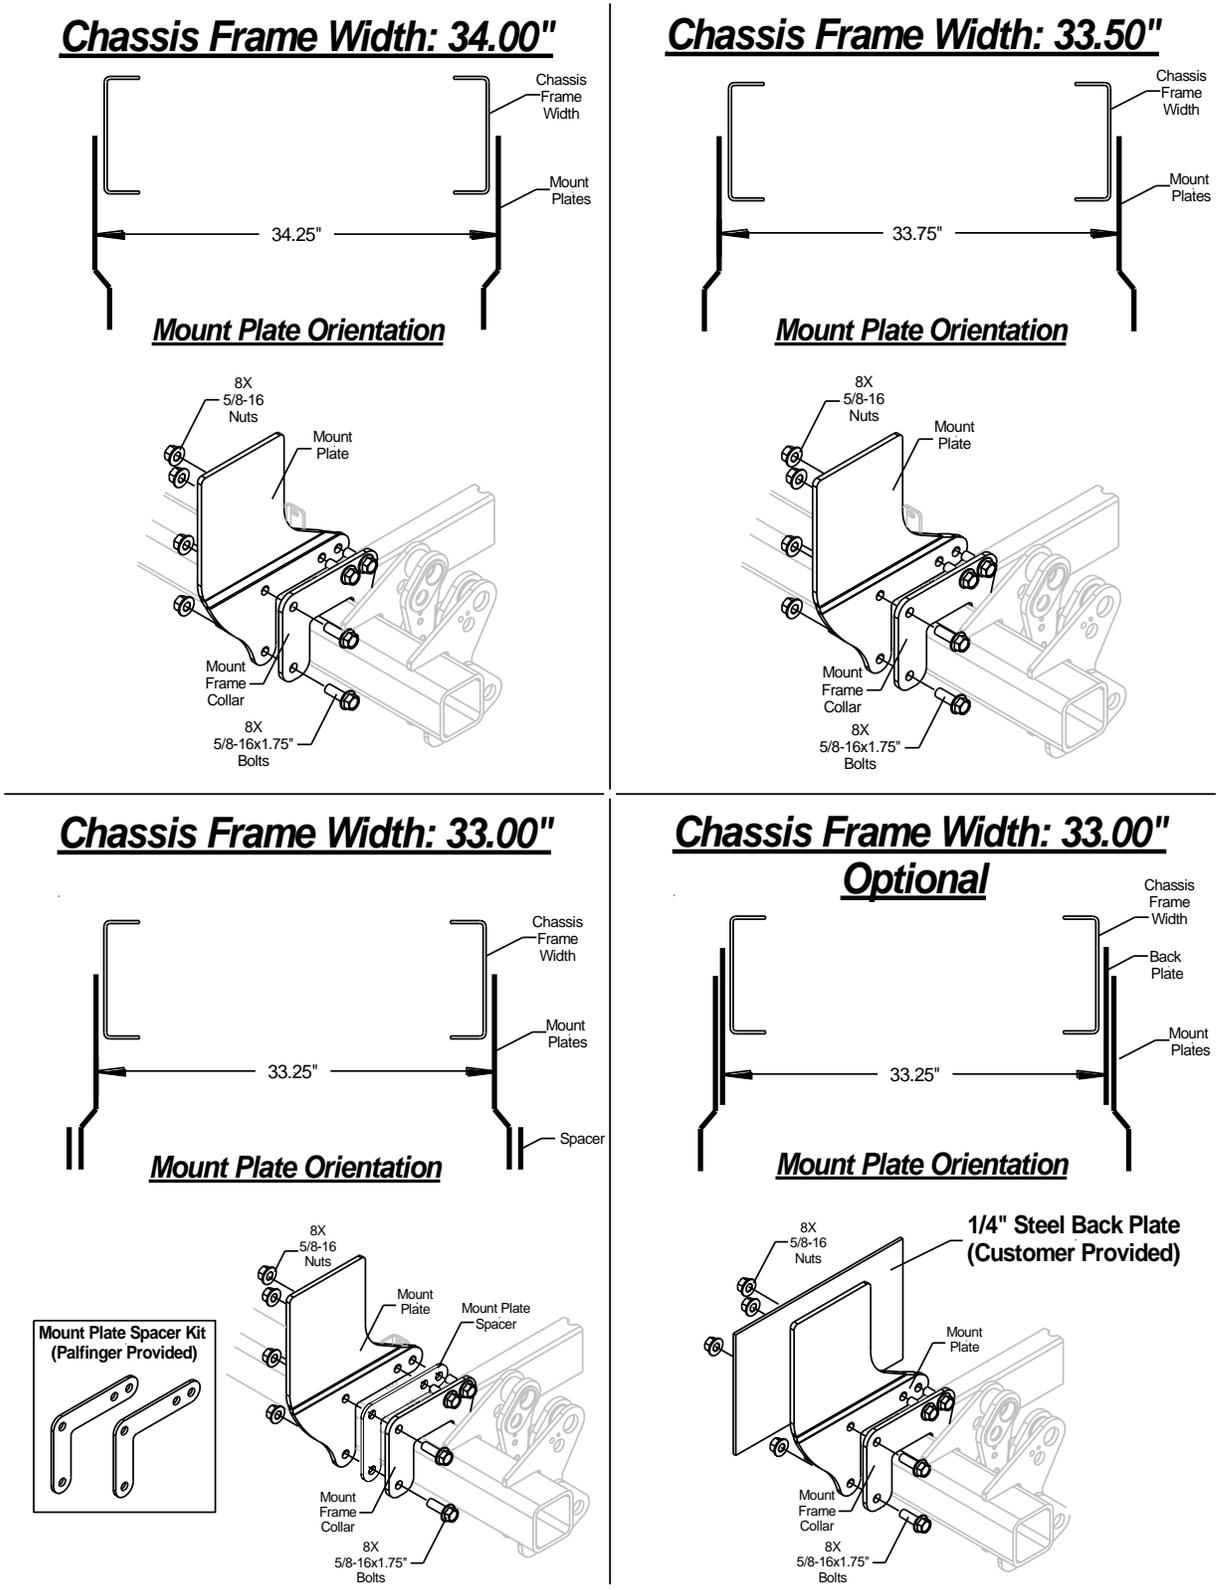

Fig.21
3. **Bolt-On Mount Plates:** Determine the width of the chassis. Orient the mount plates as indicated for that specific chassis width. Assemble the bolt-on mount plate to the mount frame collar with the 5/8-16 hardware. Torque bolts to 180 ft./lbs, **Fig. 21**.